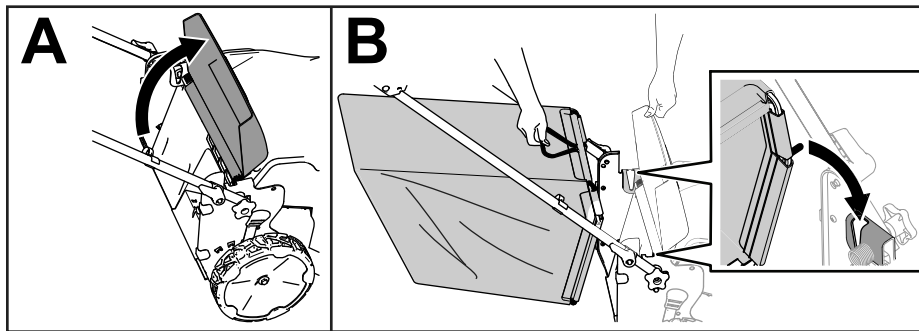

Figure 15
1. Lift up the rear deflector (A of Figure 15).
2. Insert the rod ends of the grass bag into the notches in the handle brackets (B of Figure 15).